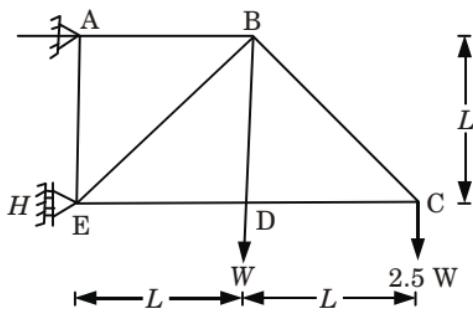

Fig. 10.
- A braced cantilever is loaded as shown in Fig. 10. All the members are of same cross sectional area. Find the force in BE.
**Given :** A braced cantilever as shown in Fig. 10.